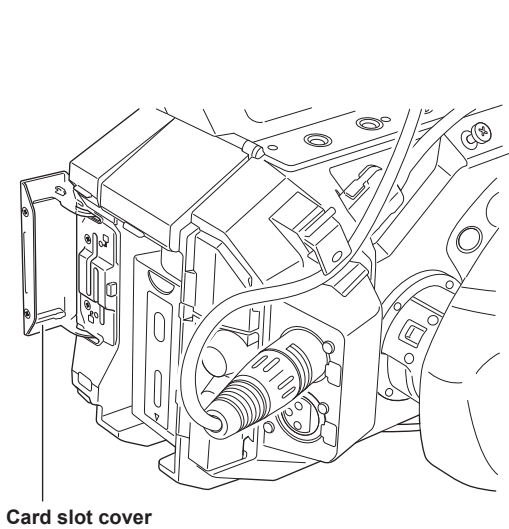

Fig. 1
- 1 Open the card slot cover. (Fig. 1)**